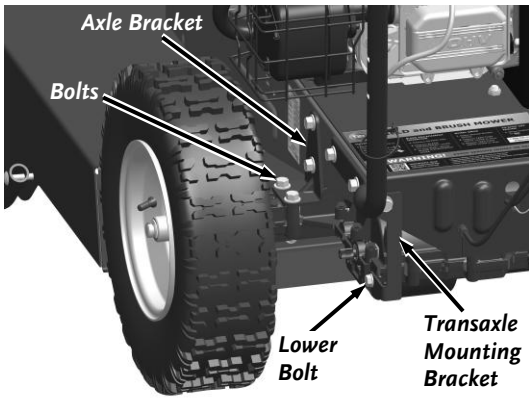

Figure 25
6. MACHINES WITH BRACKET KIT: Remove the Bolts that secure the bottom end of the Transaxle mount Brackets to the Transaxle using a 1/2" Wrench (Figure 25).
14. Align the holes of the Axle Bracket to the Transaxle and install the four Bolts using a 9/16" Wrench (Figure 25).
15. MACHINES WITH BRACKET KIT: Install the Bolts that secure the bottom end of the Transaxle mount Brackets to the Transaxle using a 1/2" Wrench (Figure 25).